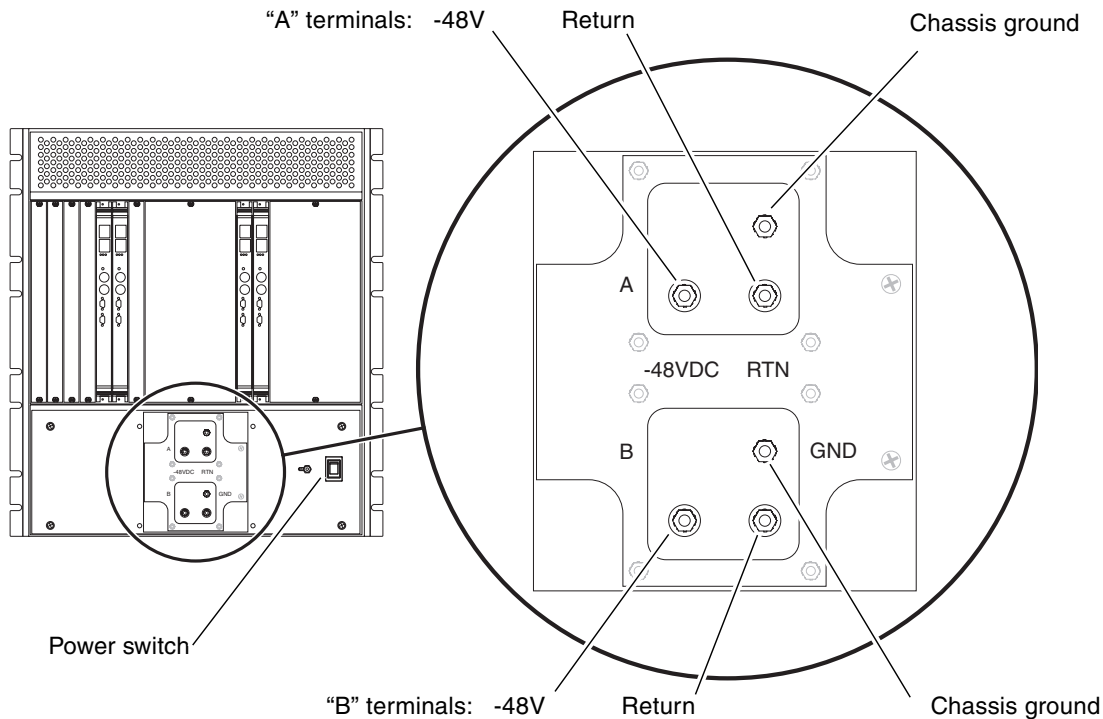

FIGURE 2-1 DC Power Input Panel
1. At the rear of the Netra CT 820 server, verify that you have made the proper connections to the DC power input panel (FIGURE 2-1).
2. Locate the power switch at the rear of the server and press it to the On (I) position (FIGURE 2-1).
2. **Locate the power switch at the rear of the Netra CT 820 server and press it to the Off (O) position (FIGURE 2-1).**
3. **If you want to completely power off the Netra CT 820 server, remove the service panel cover from the DC terminal block and disconnect the DC supply terminals from the terminal block (FIGURE 2-1).**